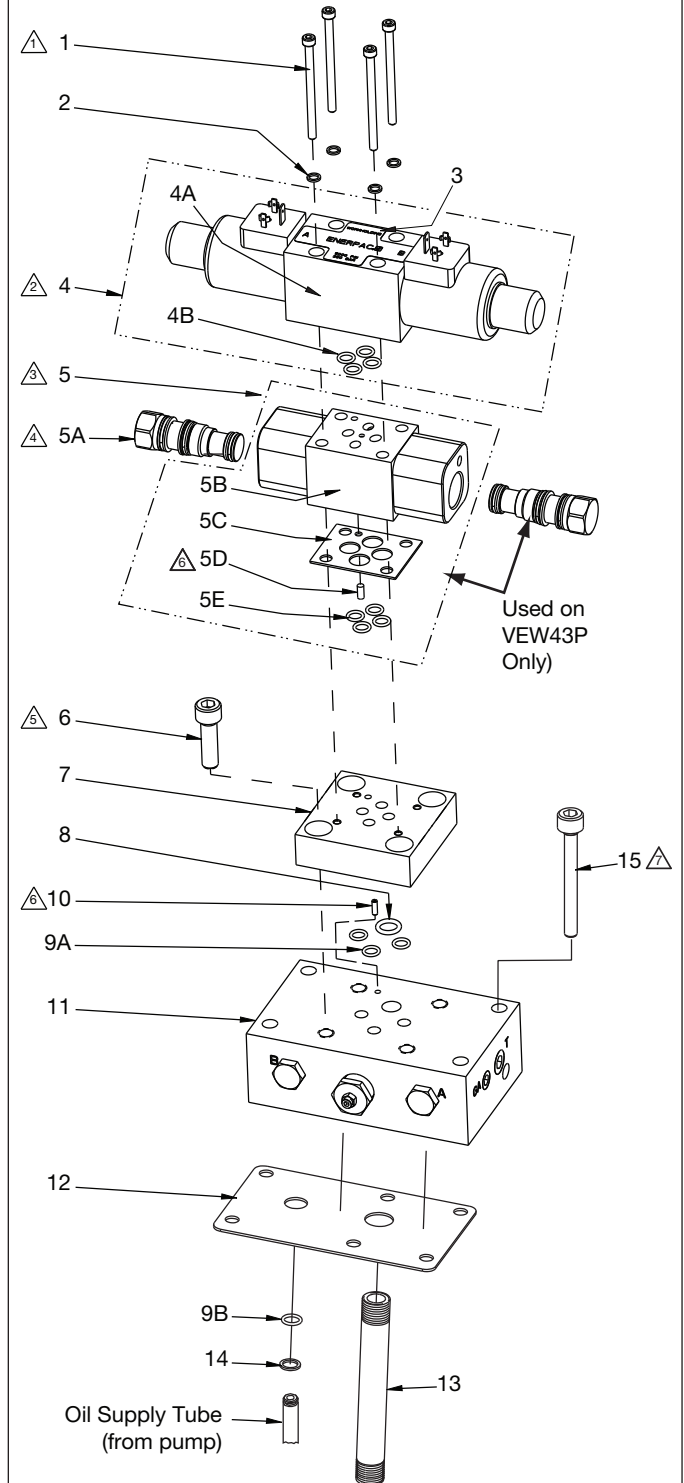
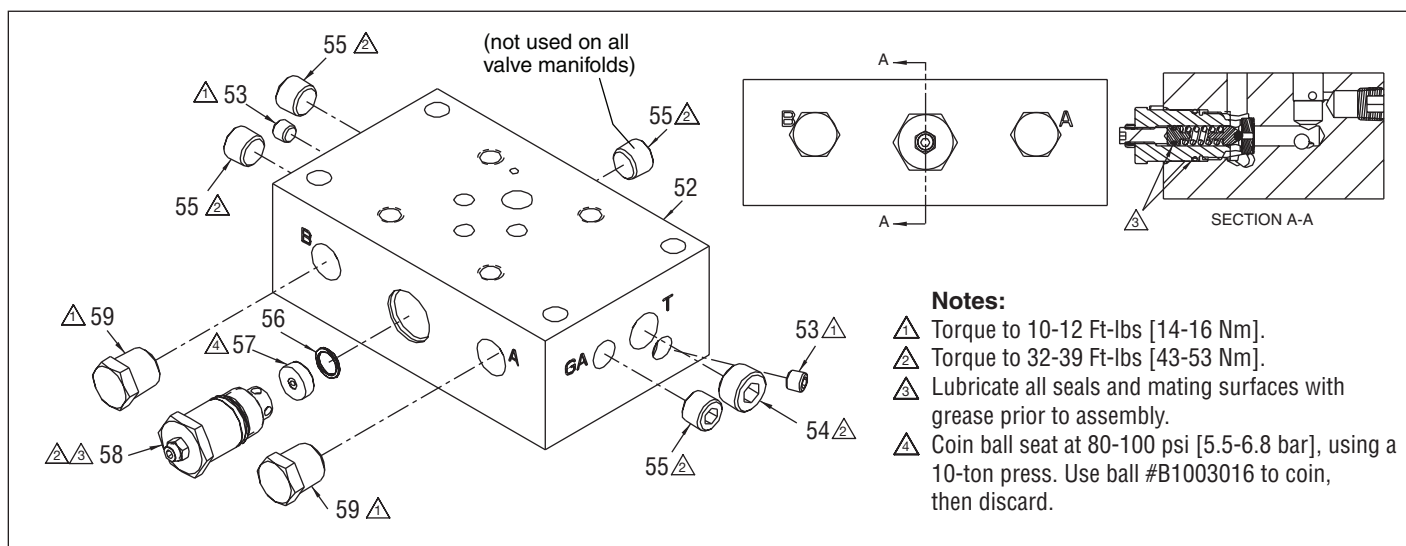
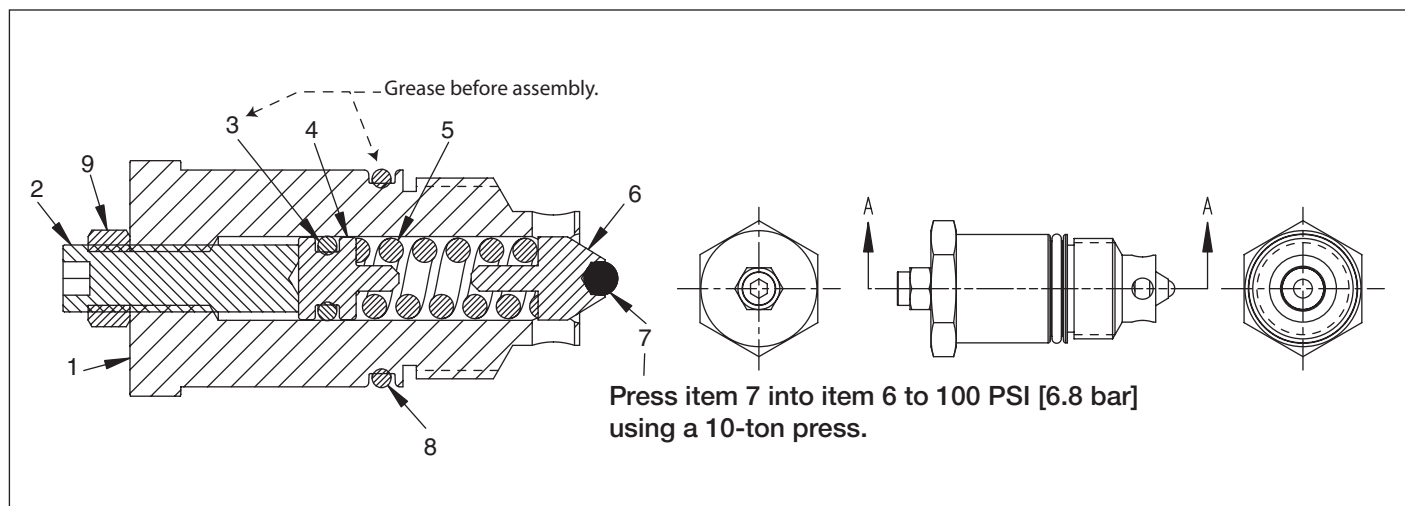

Figure 1, Valve Assembly, VEW43 & VEW43P
Figure 4, DC6177950SR, Valve Manifold Assembly
Figure 5, DC5139900SR, User Adjustable Relief Valve Assembly
Repair Parts List for Figure 1
Notes (Figure 1):
Repair Parts List for Figure 4
Repair Parts List for Figure 5
* Items included in Repair Kit DC5139900SR. ▲ Not Shown - See Figure 4, Items 56 and 57.
1. Inability to obtain any pressure may be the result of a damaged connector seal on the pump (item 9B, figure 1), failed relief valve components (items 6, 7, figure 5), a damaged pilot-operated check valve (items 5A-5E, figure 1) or a damaged directional control valve (item 4A, figure 1). These problems are usually a symptom of contaminated hydraulic oil. The system should be drained and refilled with fresh ENERPAC hydraulic oil.
3. Leakage observed on the external surfaces around the relief valve body (item 1, figure 5) is an indication that the o-ring (item 8, figure 5) needs to be replaced.
Refer to figure 1 during the following steps:
Refer to figures 4 and 5 during the following steps:
1. Loosen lock nut (item 9, figure 5) and unscrew the set screw (item 2).
2. Using a 7/8" socket, loosen and remove the relief valve assembly (item 58, figure 4) from the manifold block (item 52, figure 4).
3. Remove the seat (item 57, figure 4) from the manifold block (item 52, figure 4).
4. Inspect the seat (item 57, figure 4) for damage, such as nicks or dents on the sharp edge of the internal diameter. Replace if necessary.
5. Inspect the o-ring (item 8, figure 5) for damage and replace if necessary.
6. Inspect the ball (item 7, figure 5) and guide (item 6, figure 5). Replace if necessary.
7. Remove the pipe plugs (items 53, 54, 55, figure 4) and clean the manifold block (item 52, figure 4). Inspect for damage.
1. Apply Teflon tape to threads. Install new pipe plugs (item 53, figure 4) and torque to 10-12 ft-lbs [14-16 Nm]. Install pipe plugs (items 54, 55, figure 4) and torque to 32-39 ft-lbs [43-52 Nm].
2. Install copper gasket (item 56, figure 4) onto seat (item 57, figure 4), with round edges facing away from the seat.
3. Place seat (item 57, figure 4) onto the bottom counter bore in the manifold block (item 52, figure 4), with the gasket side down. **Note:** make sure that the seat is firmly seated and not crooked.
4. Grease o-ring (item 8, figure 5) on relief valve assembly (item 58, figure 4) and insert the assembly into cavity in the manifold block (item 52, figure 4).
5. Torque relief valve assembly (item 58, figure 4) to 32-39 ft-lbs [43-53 Nm].